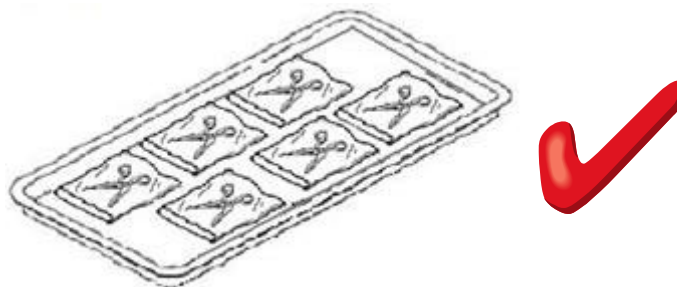
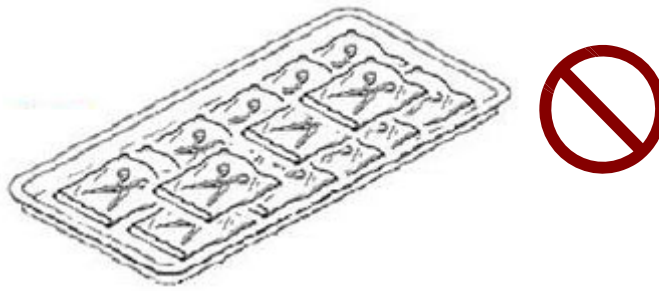

Figure 26
Figure 27
**Warning:** If implements are packed with sterilizing pouches, please make sure not to pile them up. Follow Figure 26 for correct placement and do not overlap pouches like Figure 27 to ensure the sterilization quality.